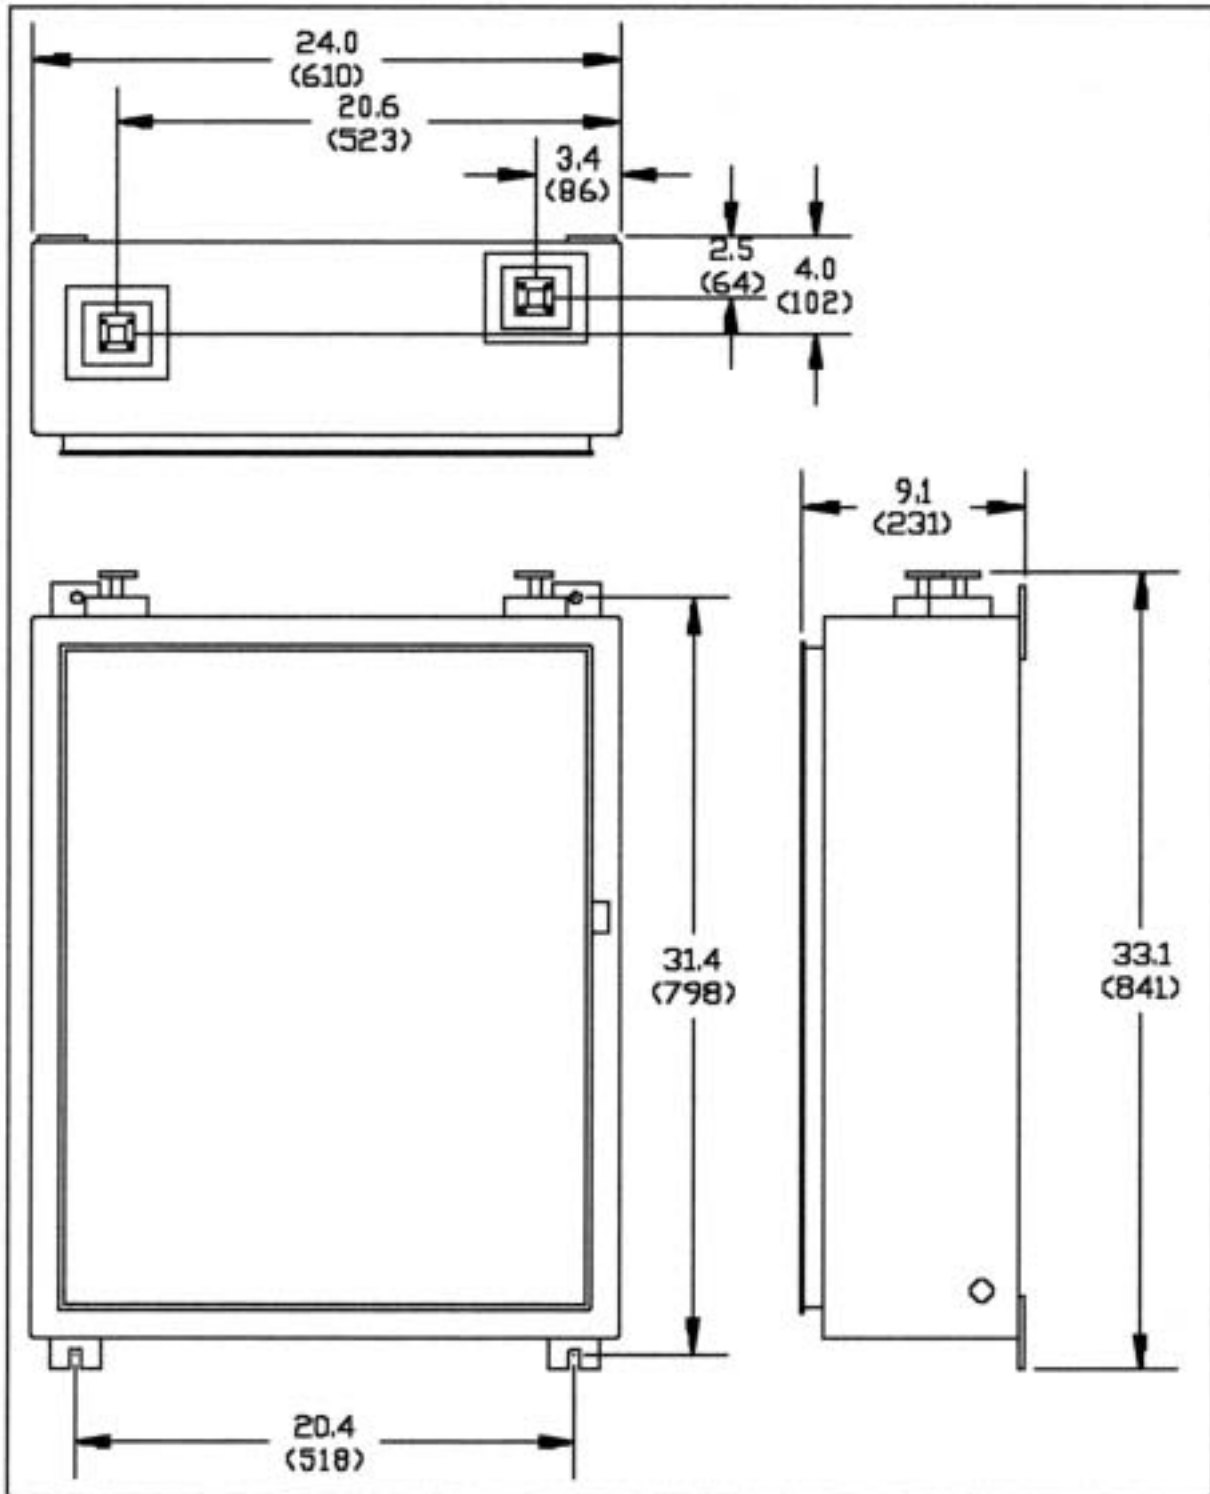

Figure 9. Cabinet Mounting Dimensions, RF-15000, -01 and -02
- The RF-15000 assembly can be mounted on crossarms on a wood-pole structure, a steel tower, or on a wall. In extremely hot environments (such as desert), shading from direct sunshine may be required. Limit the length of all power leads and use a wire size adequate to minimize the voltage drop. The repeater assembly, battery boxes, solar panels, and antennas should all be mounted before any wiring is done. See Figure 9 for mounting hole dimensions of the repeater enclosures.